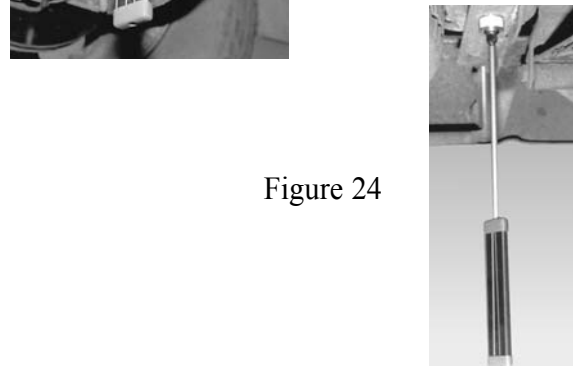

Figure 24
*Long Targets* (optional) - allow operator to mount Targets in the end sections of high ground clearance vehicles. (See Figure 24.) Targets 37, 38, 39 and 40 feature longer stems that position the Target’s reflective face on same plane as the body scanner lasers.